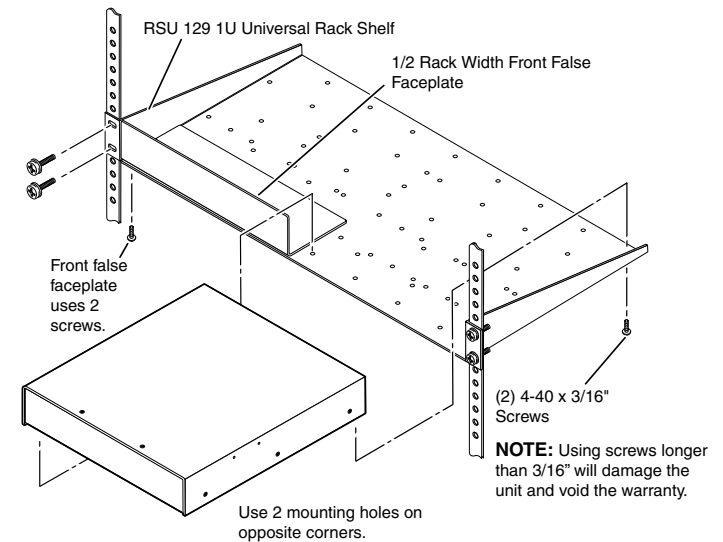

Figure 2-1 — Rack mounting the GSS 100
The following Underwriters Laboratories (UL) requirements pertain to the installation of the GSS into or onto a rack (figure 2-1).
3. Attach the GSS to the rack shelf with the two provided 4-40 x 3/16" machine screws. Insert the screws from the underside of the shelf, and securely fasten them into diagonally-opposite corners (figure 2-1).
5. Attach the rack shelf to the rack using four 10-32 x 3/4" bolts (provided with the shelf). Insert the bolts through the provided #10 beveled washers, then through the holes in the rack ears and rack (figure 2-1).